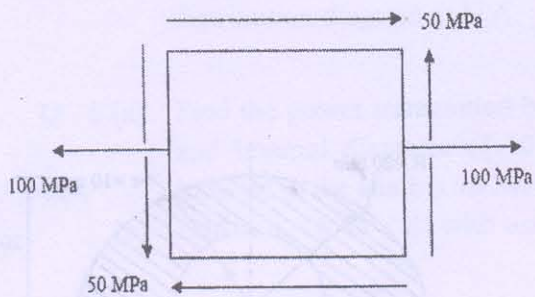

Figure 11
- (b)** For an element shown in **Figure 11** and find: (i) Major and minor principal stresses [07]